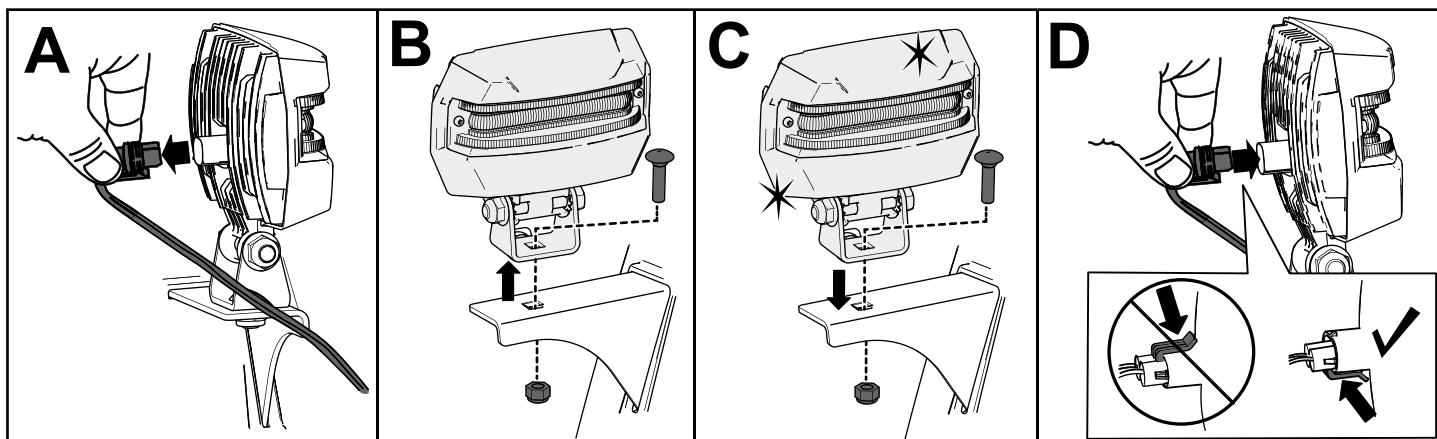

Figure 46
1. Remove the headlight wire from the back of the headlight (A of Figure 46).
2. Remove the bolt and nut holding the headlight assembly onto the headlight bracket and then remove the old headlight assembly (B of Figure 46).
3. Secure the new headlight assembly onto the headlight bracket with the previously removed nut and bolt (C of Figure 46).
4. Insert the headlight wire straight into the back of the headlight until it is securely in place (D of Figure 46).